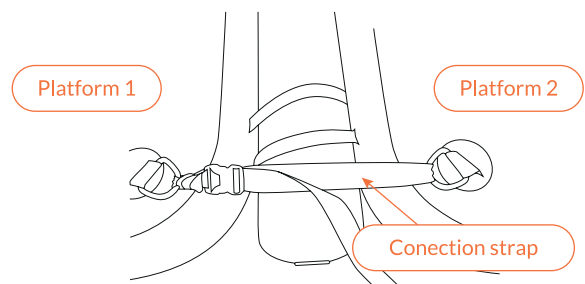

Fig 105 - Connection strap using D-rings between Platforms
4. From a kneeling position secure the Platforms to each other using the connection straps and the D-rings. Feed the connection straps through the opposite D-rings of each Platform and secure on both sides of the proposed Air Toggle connection (Fig 105).